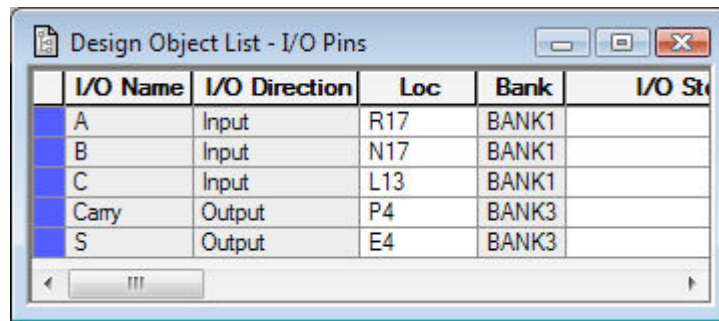

Figure 15. Pin Assignment
However, if you only download your circuit into the FPGA chip, the inputs and outputs of your circuit are not yet connected to any pins of the FPGA chip. You have to tell the FPGA which input or output of your circuit should be mapped to which FPGA chip pin. This step is called Pin Assignment. Each I/O resource is given a unique label that you may use to connect to the input and output ports of your circuit. The labels are printed on the FPGA board next to the I/O resources. For instance, switch 7 (SW7) is labeled as R17, and LED 5 (LD5) is labeled as P15\*. You may find the labels for the desired I/Os and map them to the inputs or outputs of your circuit in Pin Assignment. An example Pin Assignment for the Full Adder circuit is showing in Figure 15, where the circuit uses Switch 7 for A, Switch 6 for B, Switch 5 for Cin (C), LED 7 for Cout (Carry), and LED 6 for Sum (S).
- Find the **Design Object List – I/O Pins** window, assign the desired FPGA pin numbers in the Loc column as shown in Figure 15. We will use Switch 7 for A, Switch 6 for B, Switch 5 for Cin (C), LED 7 for Cout (Carry), and LED 6 for Sum (S).